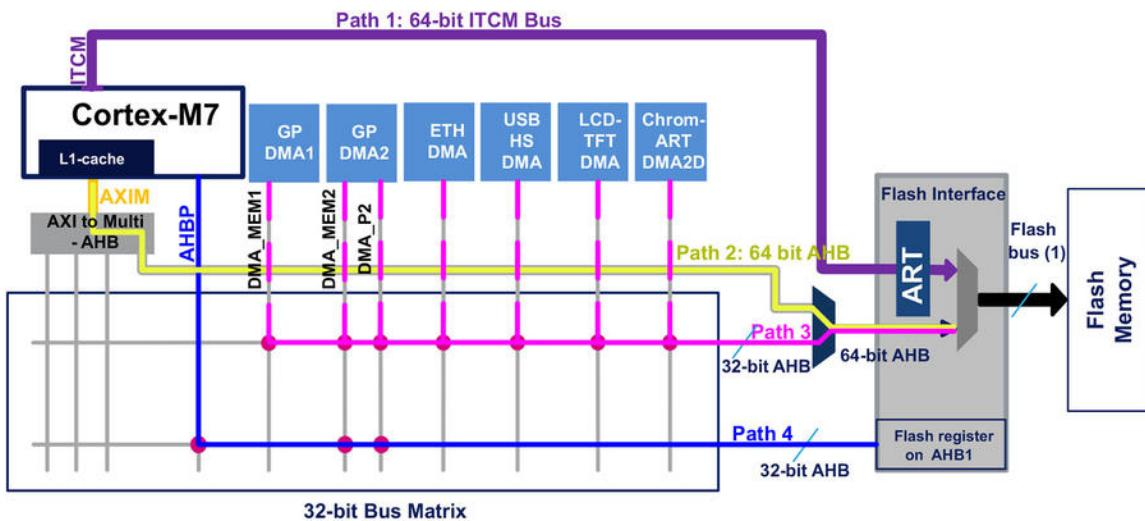

Figure 3: How the flash memory is accessed in an STM32F7 MCU
Looking at Figure 3¹⁰, you can see that the Cortex-M7 core has three distinct paths to access the flash controller (and so the flash memory). Before we describe these three paths, it is important to note a fundamental thing: the Cortex-M7 core already provides an integrated L1-cache. This cache has two dedicated cache pools, each one 64KB wide, one dedicated to the *I-Bus* and one for the *D-Bus*: this differs from other STM32 families, where data and instruction caches are implemented exclusively inside the ART™ Accelerator.
In all STM32F7 MCUs, flash memory is accessible through three main interfaces for read and/or write accesses: * **A 64-bit ITCM interface:** it connects the embedded flash memory to the Cortex-M7 via the ITCM bus (Path 1 in Figure 3) and it is used for the program execution and data read access for literal values. **The write access to the flash memory is not permitted via this bus.** The flash memory is accessible by the CPU through ITCM starting from the address 0x00020 0000. Being the embedded flash memory slower than the CPU core, the ART™ Accelerator allows *0-wait* execution from the flash memory at a CPU frequency up to 216MHz. The STM32F7 ART™ Accelerator is available only for a flash memory access on the ITCM interface. It implements an unified instruction and branch cache of 256 bits x 64 lines in the STM32F74xxx and STM32F75xxx and 128/256 bits x 64 lines in the STM32F76xxx and STM32F77xxx devices following the bank
* **A 64-bit AHB interface:** it connects the embedded flash memory to the Cortex-M7 via the AXI/AHB bridge (Path 2 in Figure 3). It is used for the code execution, read and write accesses. The flash memory is accessible by the CPU through AXI/AHB bridge starting from the address 0x0800 0000 and it is cacheable (that is, it can use the L1-cache) reaching the same *0-wait* performances of the ART™ Accelerator. The L1-cache in Cortex-M7 cores can range from 4KB to 16KB. STM32F74xxx and STM32F75xxx MCUs provide two cache pools, one for the instructions (*I-Bus*) and one for the literal pools (*D-Bus*), each one 4KB wide. Instead, STM32F76xxx and STM32F77xxx MCUs provide two cache pools each one 16KB wide. The L1-caches on all Cortex-M7 cores are divided into lines of 32 bytes. Each line is tagged with an address. The data cache is 4-way set associative (four lines per set) and the instruction cache is 2-way set associative. This is a hardware compromise to keep from having to tag each line with an address.
* **A 32-bit AHB interface:** it is used for DMAs transfers from the flash memory (Path 3 in Figure 3). The DMAs flash memory access is performed starting from the address 0x0800 0000.
A fourth path exists (see Figure 3) through the *Advanced Bus Peripheral* (AHBP) interface, and it is reserved to the access to flash peripheral registers inside the 0x4000 0000 peripheral mapped region.